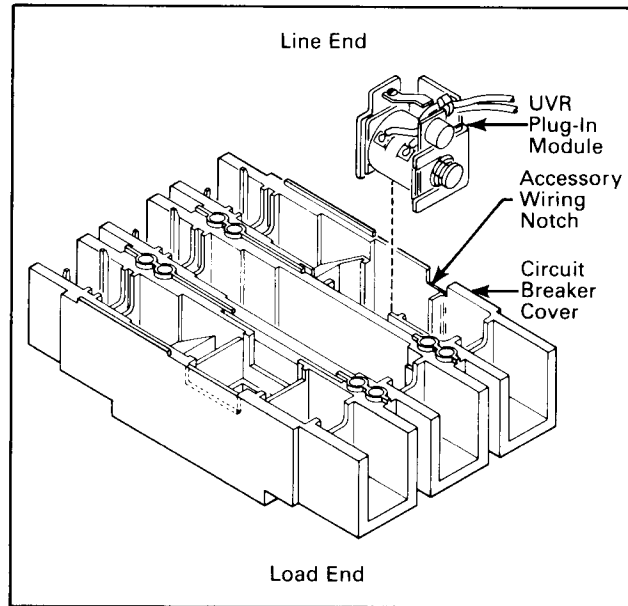

Fig. 2-3. UVR Installation
- 2-5. With cover in inverted position (Fig. 2-3), position UVR plug-in module as shown and slide into mounting cavity in circuit breaker cover.